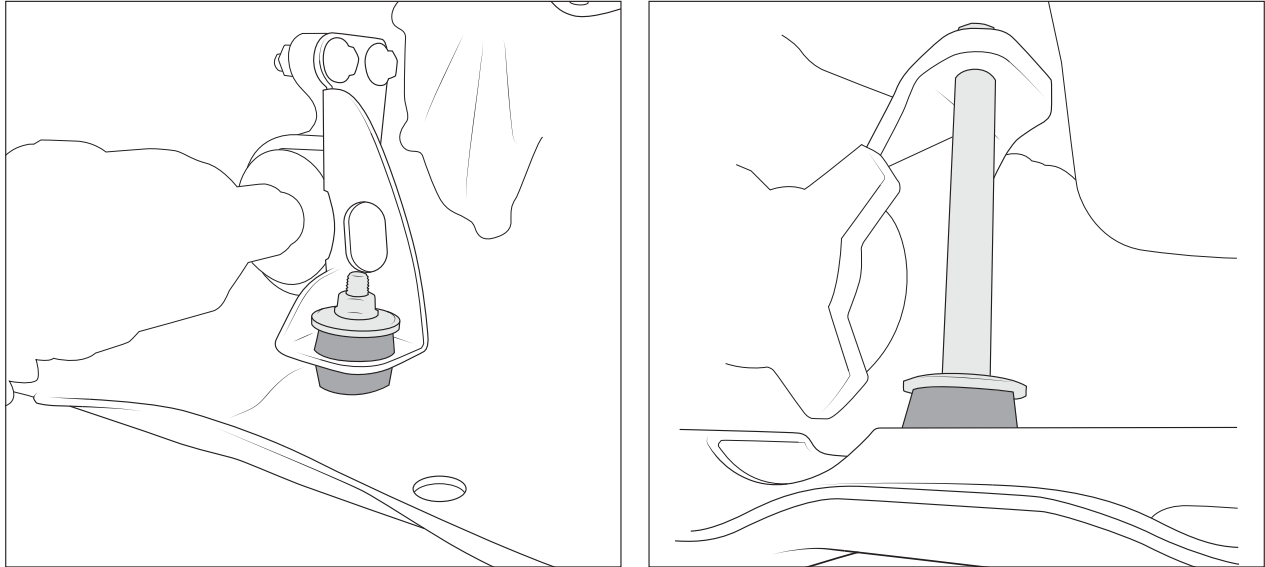

Figure 18
- B. Align front bushings with skidplate holes. Feed M12x70mm bolts up from bottom. Place cupped washer on top of bushings with dish facing downward, then loosely install M12 flange nuts (fig. 18).
- C. Place cupped washer on top of bushing. Raise pinion and place long tube spacer between cupped washer and upper bracket. Slide cupped washer into place below bottom of bushing, then feed M12x-220mm bolt up from bottom of skid, through the cupped washers and sleeve, through tube spacer, and up through pinion bracket. Install flange nut to top of bolt and bracket (fig. 18).